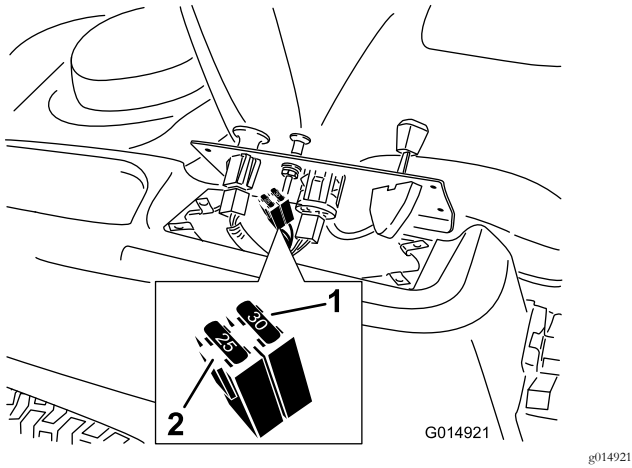

Figure 45
2. Lift the control pane up to access the main wire harness and fuse block (Figure 45).
3. To replace a fuse, pull out on the fuse to remove it (Figure 45).